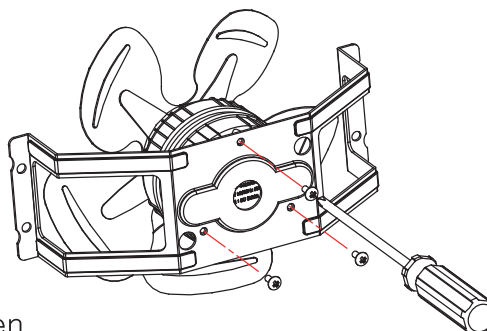

Fig 9-12
3. Loosen the connecting bolts between the fan motor and fan guard. (Fig 9-12)